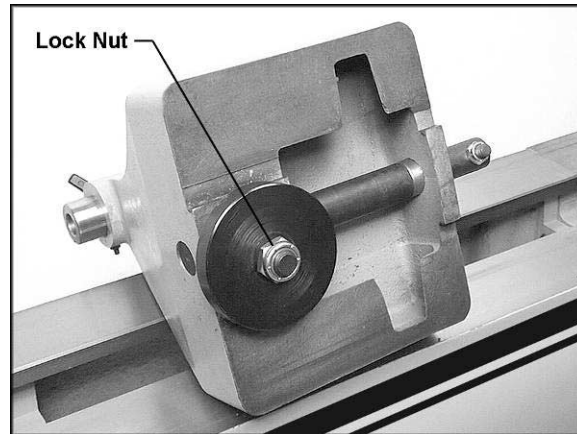

Figure 15
If the headstock, tailstock or tool rest base does not tighten properly down against the Lathe bed when the locking handle is tightened, it may need adjusting. Figure 15 uses the tailstock as the example:
2. Turn the tailstock on its side, and tighten the lock nut with a wrench. See Figure 15.